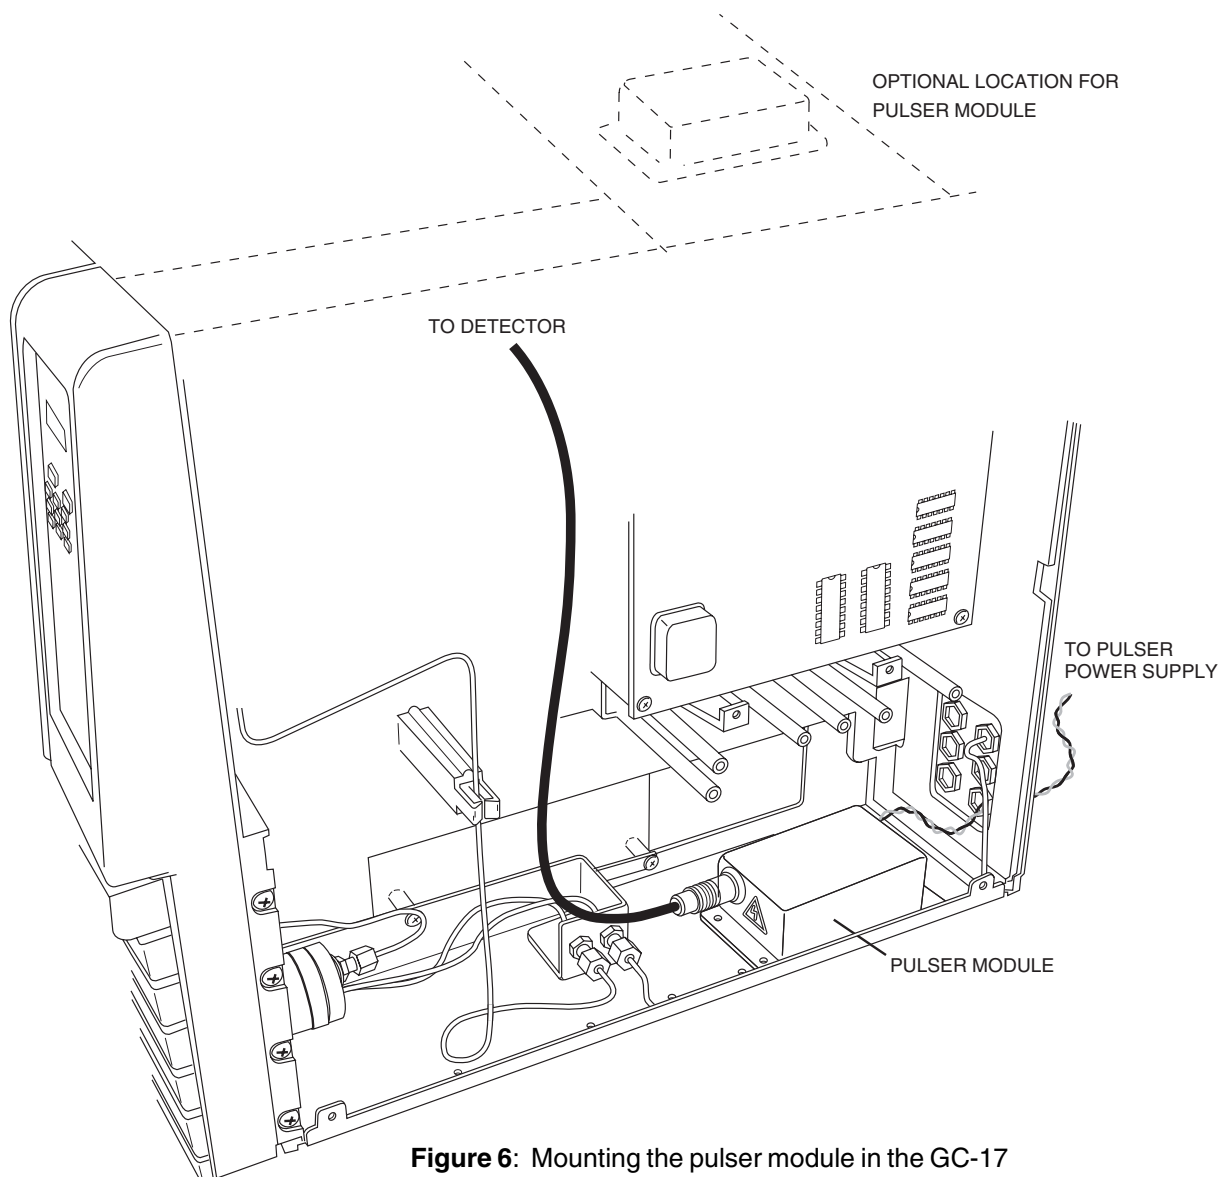

Figure 6: Mounting the pulser module in the GC-17
1. **GC-17:** The pulser module can usually be mounted on the bottom plate of the GC, using existing holes. (**Figure 6**) If there is no room on the bottom plate, mount the module on the top of the GC oven.